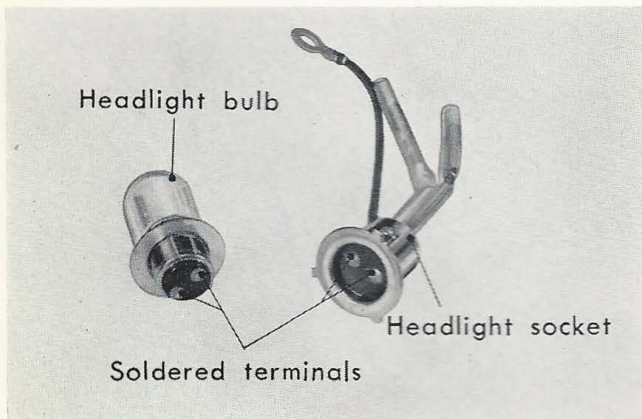

Figure 5-32. Soldered terminals
- 3) When poor contact is caused by corrosion, polish the contacts with a file or sand paper. (Fig. 5-32)